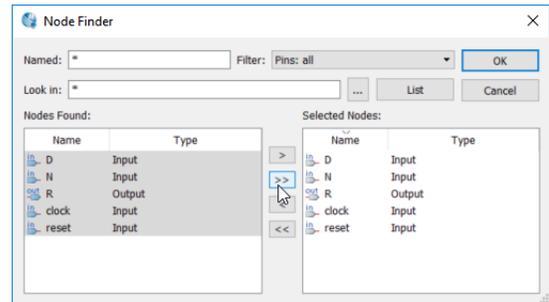

Figure 32. Node finder dialog.
7. Click **Node Finder..**. A pop-up box will appear as shown in Figure 32.